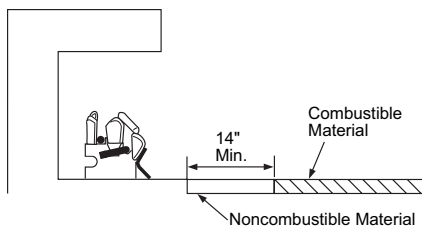

Figure 8 - Minimum Fireplace Clearances If Installed at Floor Level
- A. If installing appliance on floor level, you must maintain the minimum distance of 14" to combustibles (see Figure 8).